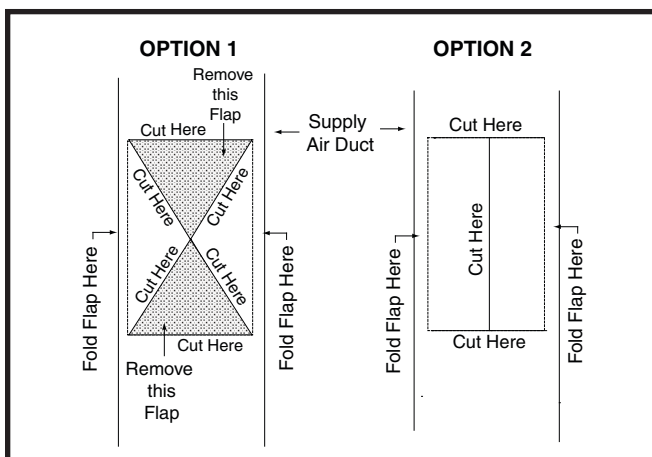

Figure 11. Narrow Air Duct Openings
- Score and cut the top of the supply air duct as indicated in Option 1 or Option 2. See Figure 11 \(page 8\).